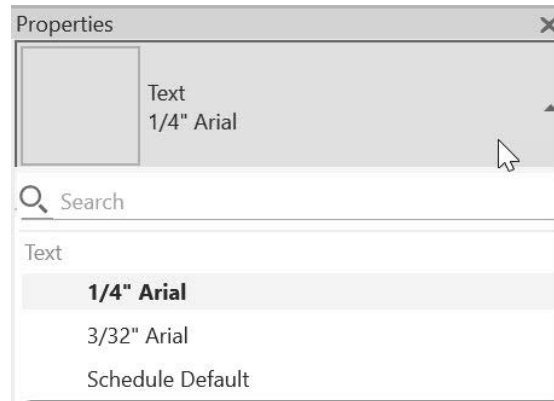

Figure 1–39
2. Expand the list in the Type Selector. Only a few text types are available, as shown in Figure 1–39.